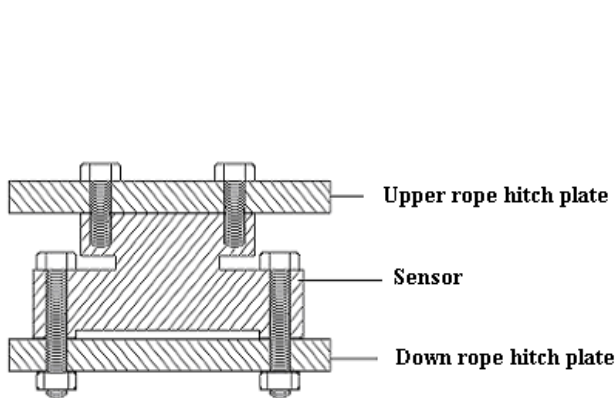

Fig.6
1. The sensor installed in machine room. The sensor should be installed on rope hitch plate. The sketch map is followed: (Fig.6)